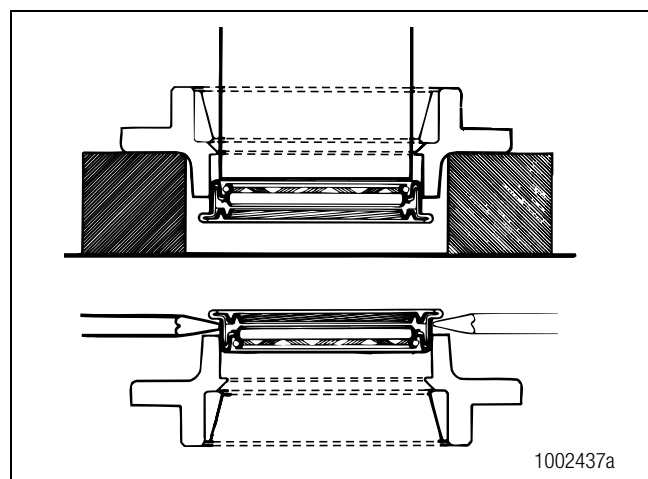

Figure 3.27
- If a press is not available:** Place a tool with a flat blade under the flange to remove the oil seal from the cage. Figure 3.27.